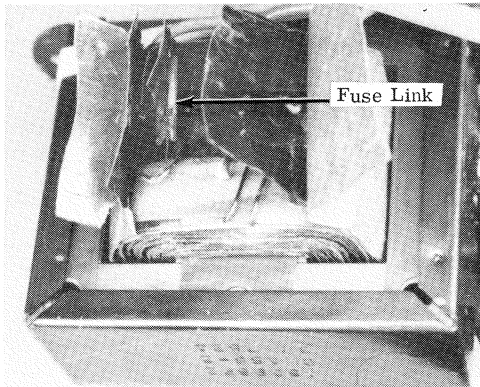

Figure 6-1. Transformer Fuse Link Replacement
- (1). Use a Buss fuse link #LKB-3 available from Singer Education Systems as Part No. SS-359.
- (2). Carefully cut through the outer insulation between the power wire connections of the transformer to uncover the fuse. **Figure 6-1.** Transformer Fuse - link replacement.